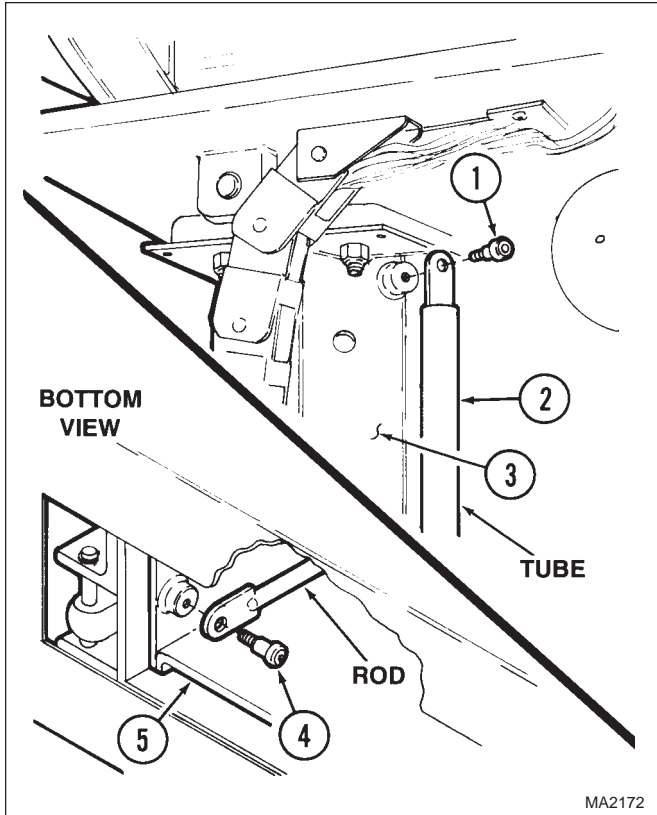

Figure 4-49. Gas Spring Removal / Installation
- (3) Remove shoulder screw (1, Figure 4-49) which secures gas spring (2) to inner slide (3).
- (4) Depress brake pedal to lock the brakes.